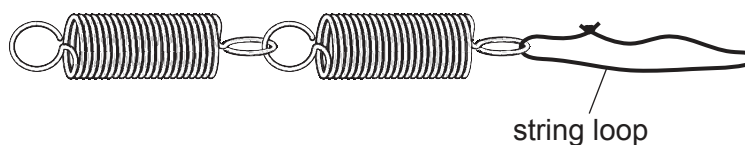

Fig. 1.3
- 3 The springs should be connected together as shown in Fig. 1.3. A string loop of approximate circumference 10 cm should be attached to one of the springs.